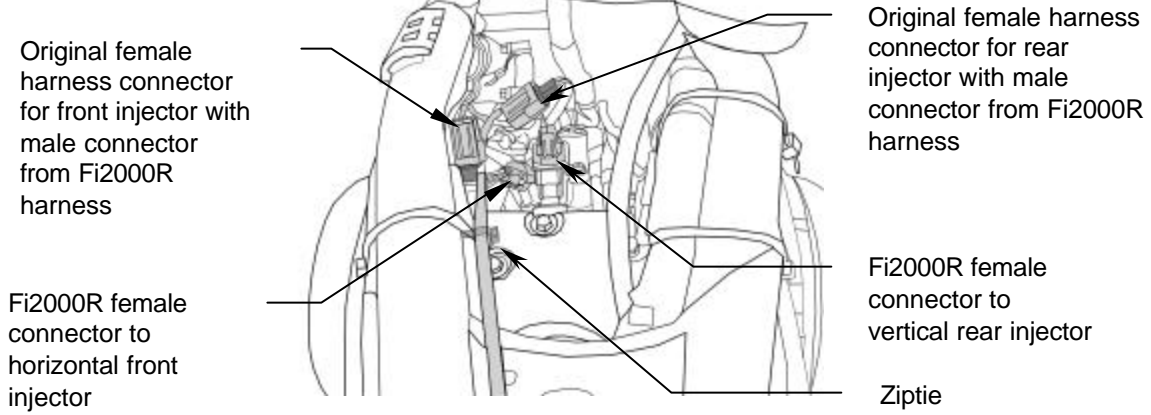

FIGURE 1
2. Locate and unplug the two gray factory fuel injector plugs. Install the gray Fi2000R female connectors onto the injectors, using the longer Fi2000R female connector on the vertical injector and the shorter Fi2000R female connector on the horizontal injector, see Figure 1. Now plug the black male Fi2000R connectors into the corresponding original female injector connectors and tuck them out of the way.